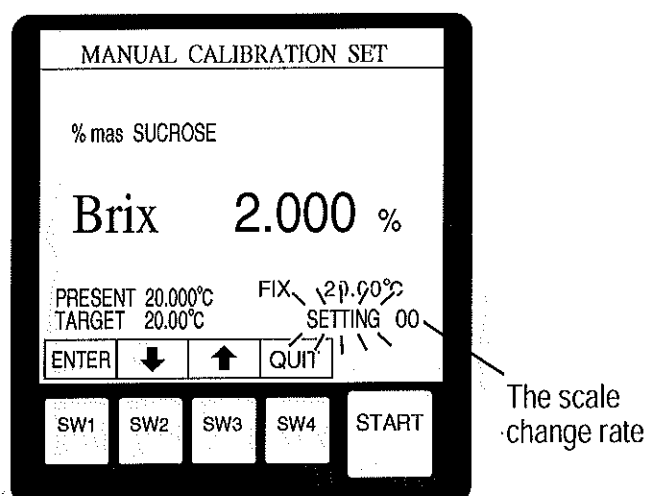

Fig.16-4
- In the Brix display mode(Fig. 16-4), press the SW2(↓) or SW3(↑) key, and the scale change rate and indicated Brix change. Set Brix to 0 (where the change rate is 0).